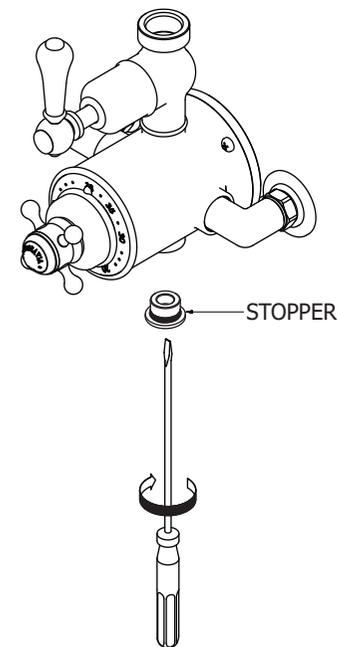

Fig. 2
- Remove the stopper from the mixer (Fig. 2);